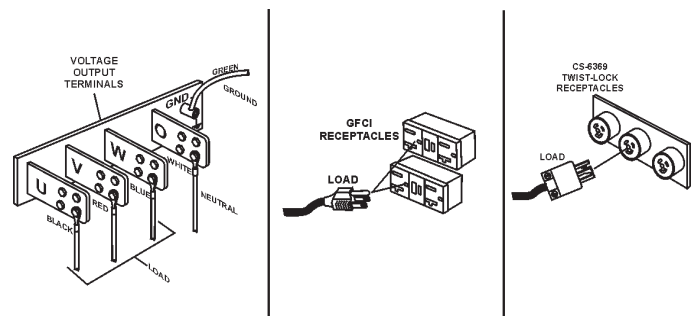

Figure 43. Load Connections
2. Connect the load to the *UVWO* terminals or *auxiliary receptacles* as shown in Figure 43. These load connection points can be found on the output terminal panel. To gain access to the UVWO terminals or other power receptacles, unlock the access cover and lift the door.